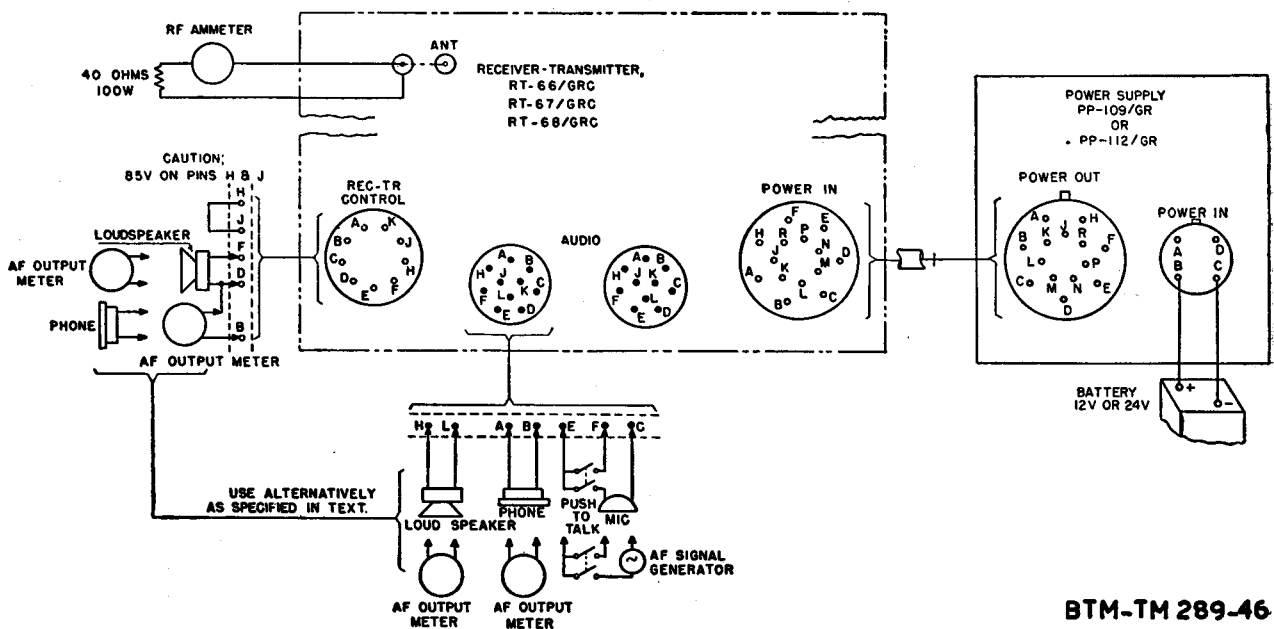

Figure 43. Test set-up, functional diagram.
50. Test Bench Set-up for Operational Check Using Power Supply PP-109/GR or PP-122/GR (fig. 43)
Preliminary	(a) Set up the receiver-transmitter as shown in figure 43 and as described in paragraph 50. (b) Turn DIAL LIGHT (ON-OFF)-RING switch to OFF position. (c) Turn power supply OPERATE switch to TRANS & RECEIVER. (d) Turn power supply TRANS POWER switch to LOW.